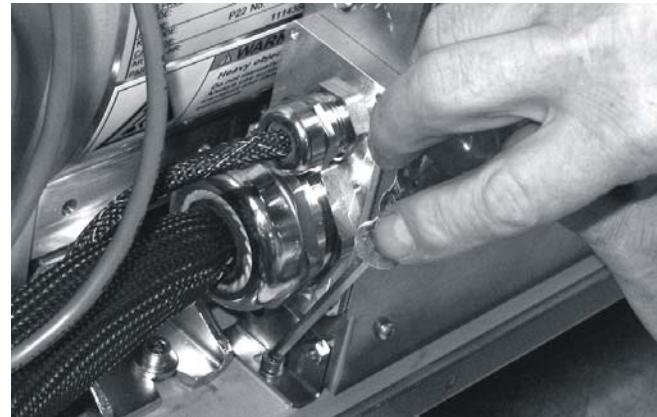

Figure 11: Unscrewing the LCB module
3. Use the 4 mm allen key to unscrew the two screws securing the LCB module (see Figure 11) and lay the module aside.
10. Use the 4 mm allen key to tighten the LCB module onto the baseplate of the laser device (see Figure 11)